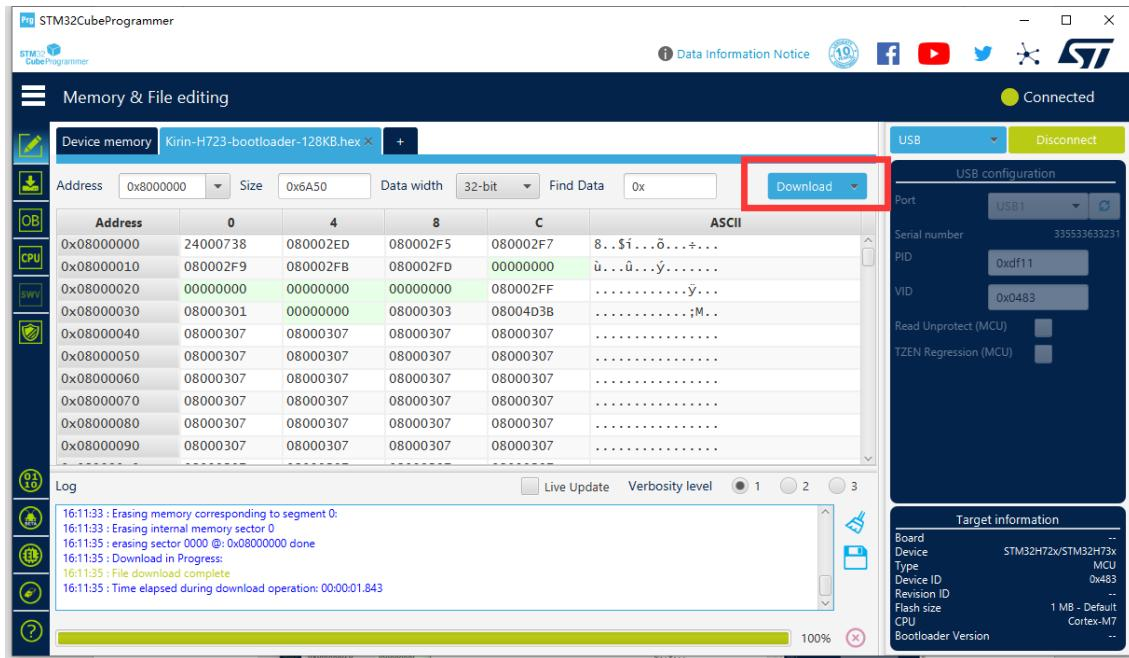

Figure 8-14
- 17) Select file completion and click Download, as shown in Figure 8-14: